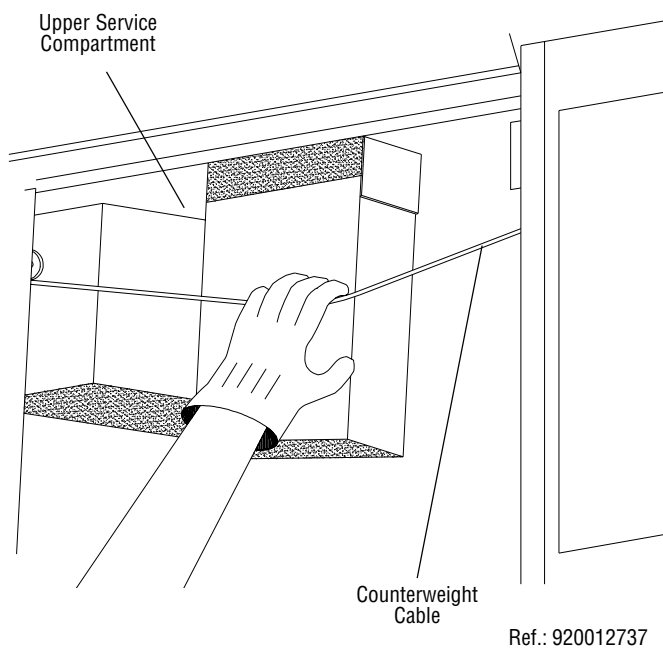

Figure 2-17. Pull Down Counterweight Cable
- f. From the upper service compartment, pull down on the counterweight cable, about 1 or 2" (25 or 50 mm), to raise counterweight off of the support (see Figure 2-17).